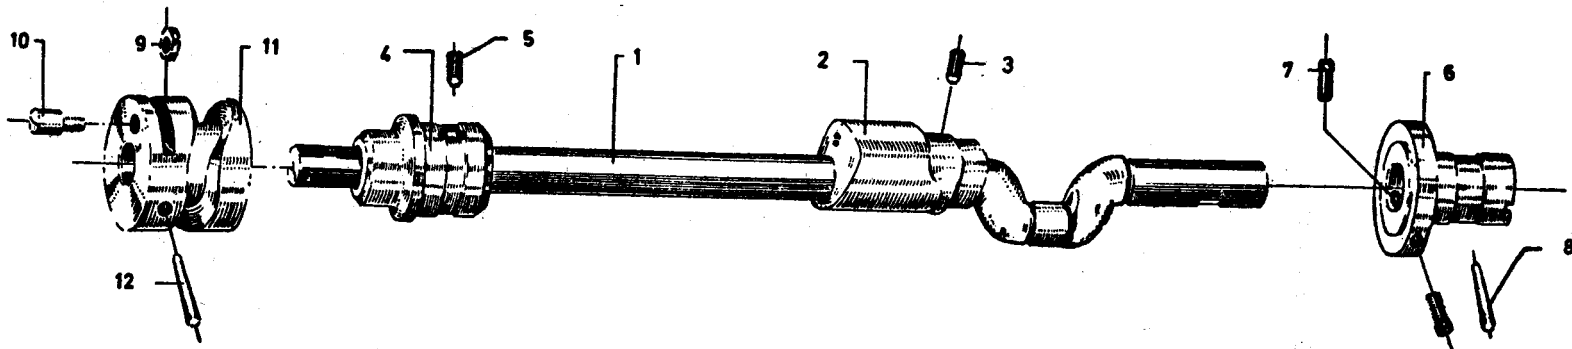

FIG. 2 ARM SHAFT ASSEMBLY
**2.2 Arm Shaft Assembly — See Fig. 2.**